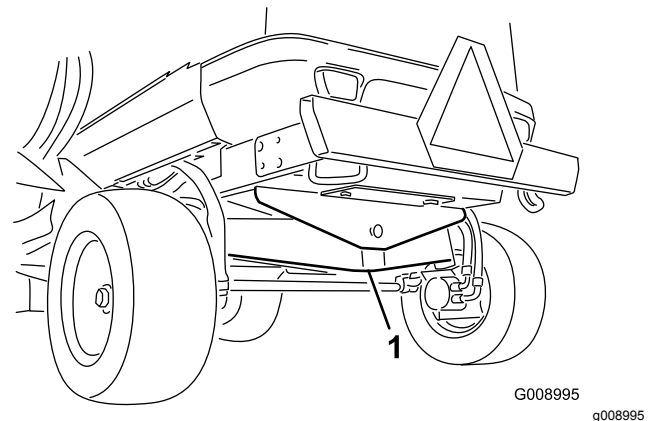

Figure 73
1. Front jacking point (2)
**Rear of the machine**—at the center of the axle (Figure 73)